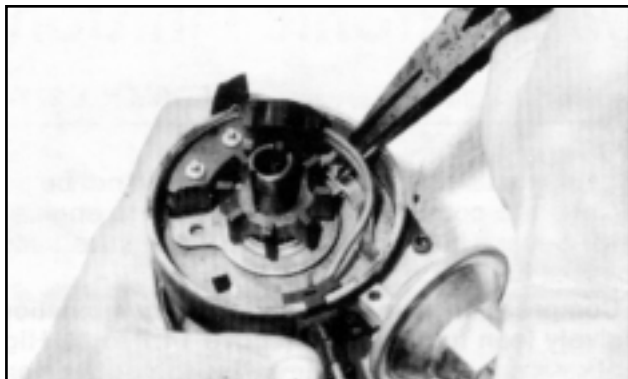

FIG. 4
8. Remove C clip, and remove vacuum advance unit (2 screws). (FIGS. 4 & 5)